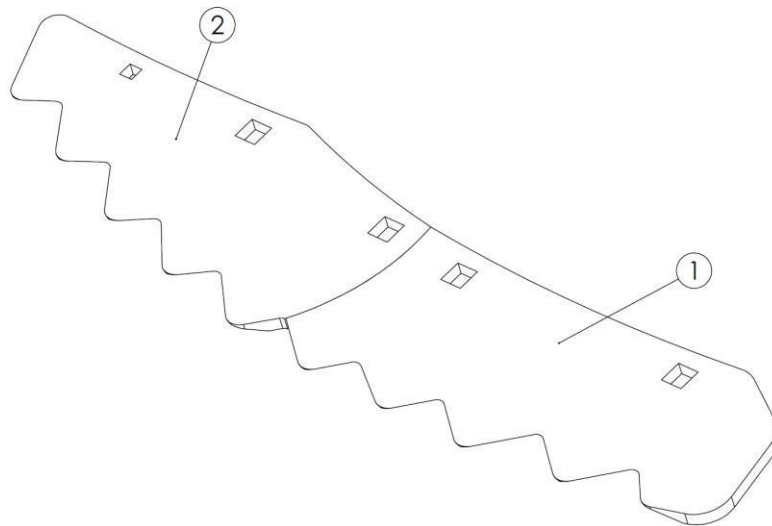

Figure 62. Blade sharpening: 1 - cutting knife I, 2 - cutting knife II
The cutting blades can be set in two positions A and B - see Figure 60. To do this, remove the base (1), which is bolted using a screw (4), a washer (5) and a nut (6) - see Figure 62. Next, screw the base together with the knives onto the corresponding holes (A - cutting blades extended, B - cutting blades retracted).